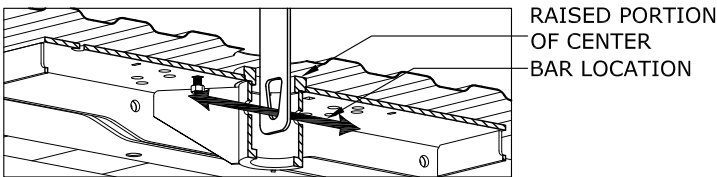

FIGURE B9: Cutaway of center section and truck bed.
- 4. Lift Center.** If using a lifting device, anchor it to the center section using the latch pin, or if you have a bolt in latch pin use the holes in the socket receiver and a bar as shown in figure B9. Pull center section toward bed of truck. Guide the raised portion of the center through the 4" hole in the truck bed and pull the center tight against the floor of the bed.